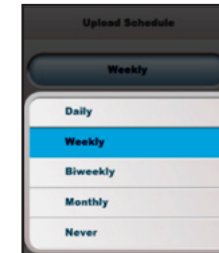

Figure 4-42 Upload Schedule Selections
17.3.2.1 Press the button in this field and select the desired time period from the list shown in Figure 4-42. The recommended time period is "Weekly".